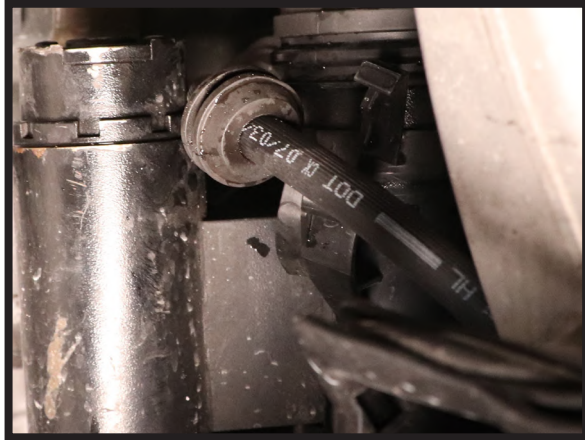

FIGURE 28
5. REROUTE AND CLIP ALL BRAKE/AIR LINES BACK INTO PLACE ON THE WIRE RETAINER. (FIGURES 28, 29)